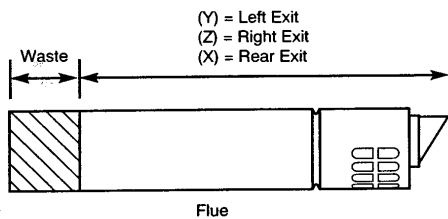

Fig. 27
3. Take the flue and mark off (X) from the terminal end as indicated in the diagram (Fig. 27).
5. Take the flue and mark off (Y) from the terminal end as indicated (Fig. 27).
6. **For right hand exit** - measure the distance from the edge of the wall plate to the inner face of the wall and to this dimension add the wall thickness + 350mm. This dimension to be known as (Z).
7. Take the flue and mark off (Z) from the terminal end as indicated (Fig. 27).